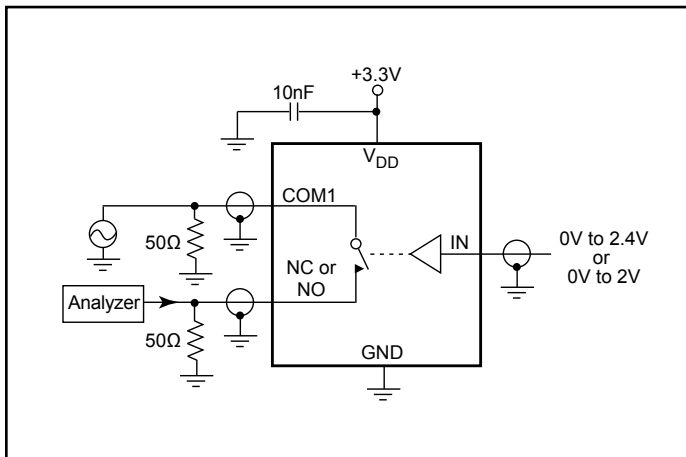

Figure 3. Off Isolation
4. Off Isolation = 20log₁₀ [V_{COM} / (V_{NO} or V_{NC})]. See Figure 3.